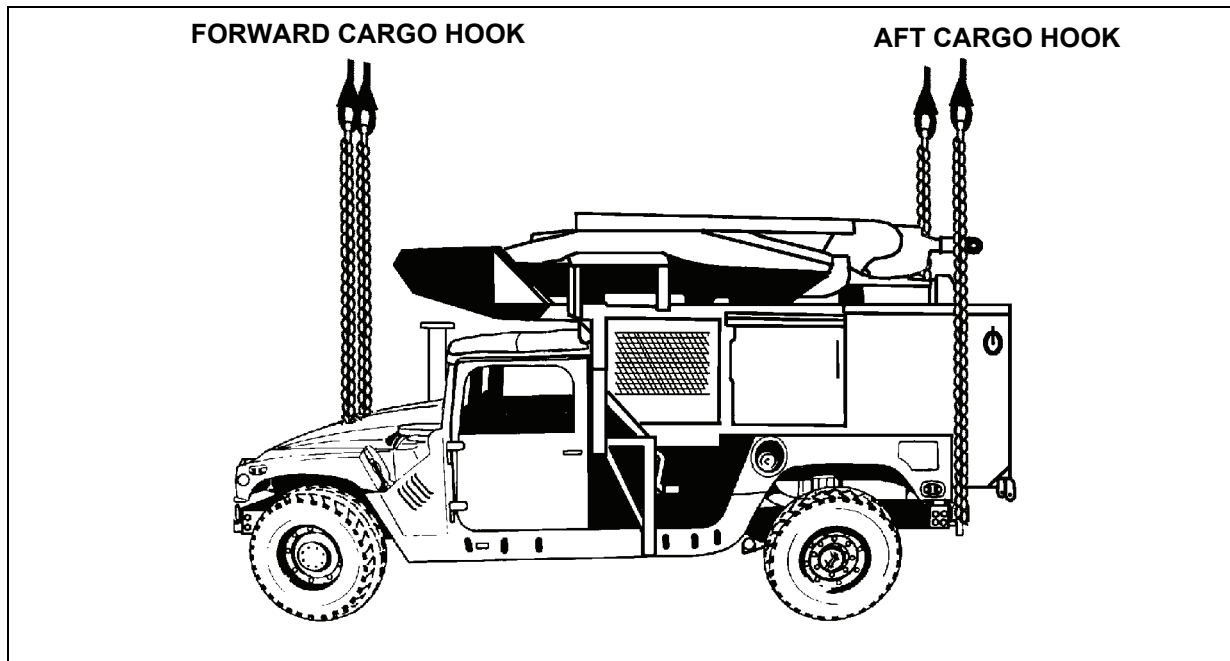

Figure 6-14. Dual-Point Load
- Some loads can be carried in the dual-point configuration. Dual-point loads require an additional apex fitting for the extra sling set (Figure 6-14). Dual-point loads have the same sling leg length requirements as listed in paragraph 6-2, page 6-1 for three lift points, and page 6-8 for four lift points.